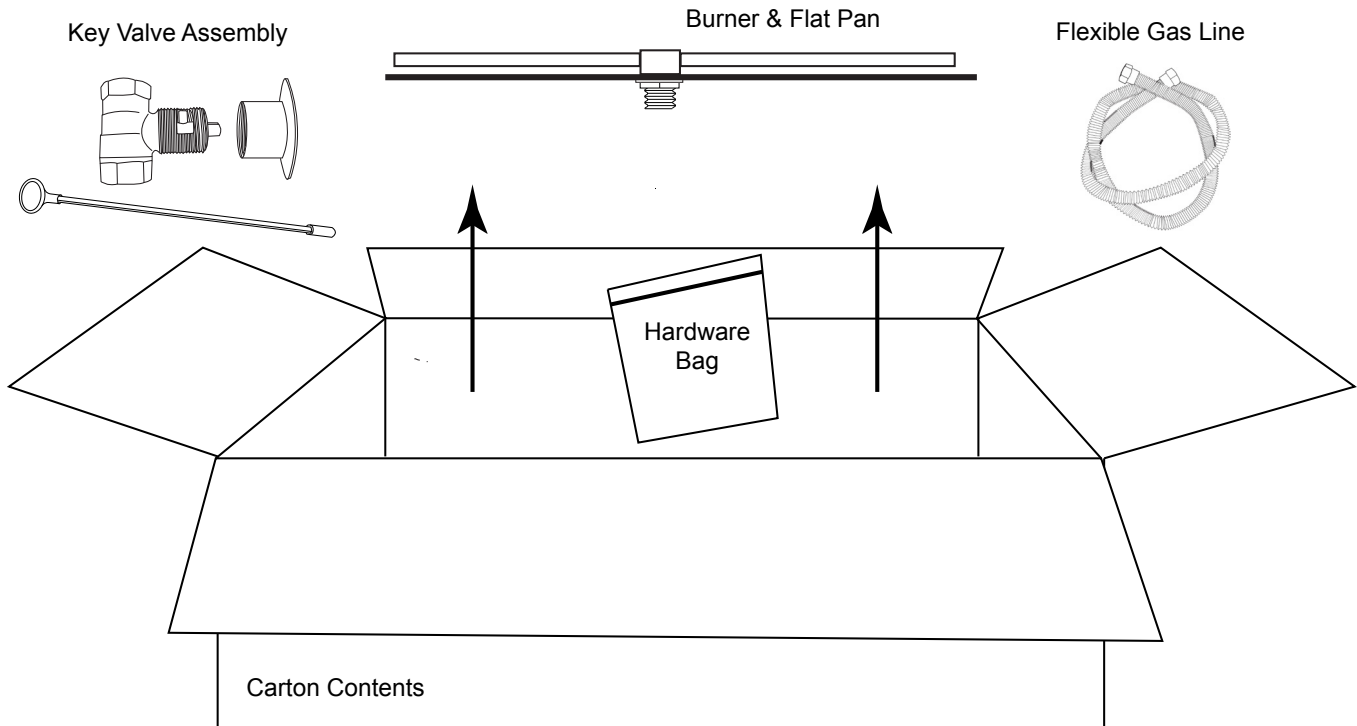

Fig. 4 Removing burner pan from carton.
6. **CAUTION: A minimum of 18 square inches of cross ventilation (opposite side) is required to keep the enclosure dry. See Fig. 4.**